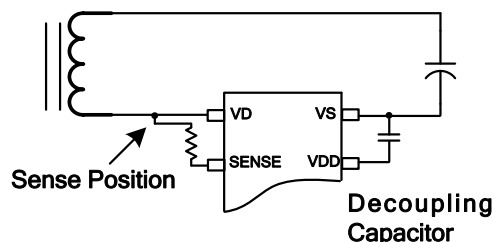
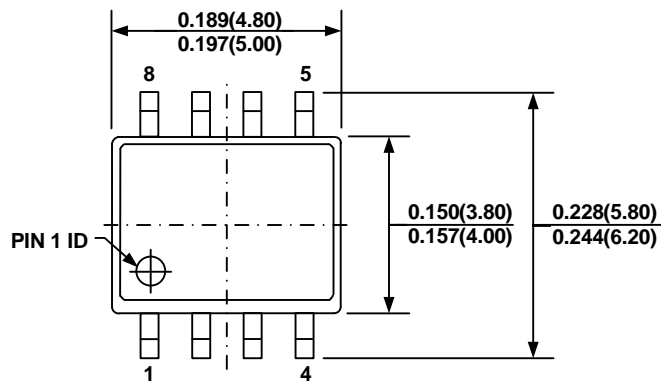

### Figure 4: Layout Example in Flyback Low-Side Application
### Figure 5: Voltage Sensing for VD/SENSE
Figure 4 shows a layout example for a low-side application of a flyback power supply, specifically a single layer with a through-hole transformer. RSN and CSN comprise the RC snubber network for the internal MOSFET. The sensing loop (SENSE to the MOSFET drain) is optimized and kept separate from the power loop. The VDD decoupling capacitor (C2) is placed beside VDD.
Efficient PCB layout is critical for stable operation. For the best results, refer to Figure 4 and Figure 5, and follow the guidelines below:
1. Connect the SENSE pin to a different position for an adjustable turn-off time during the fast transients in CCM. The further the junction point is from VD, the earlier the SR turns off (see Figure 5).